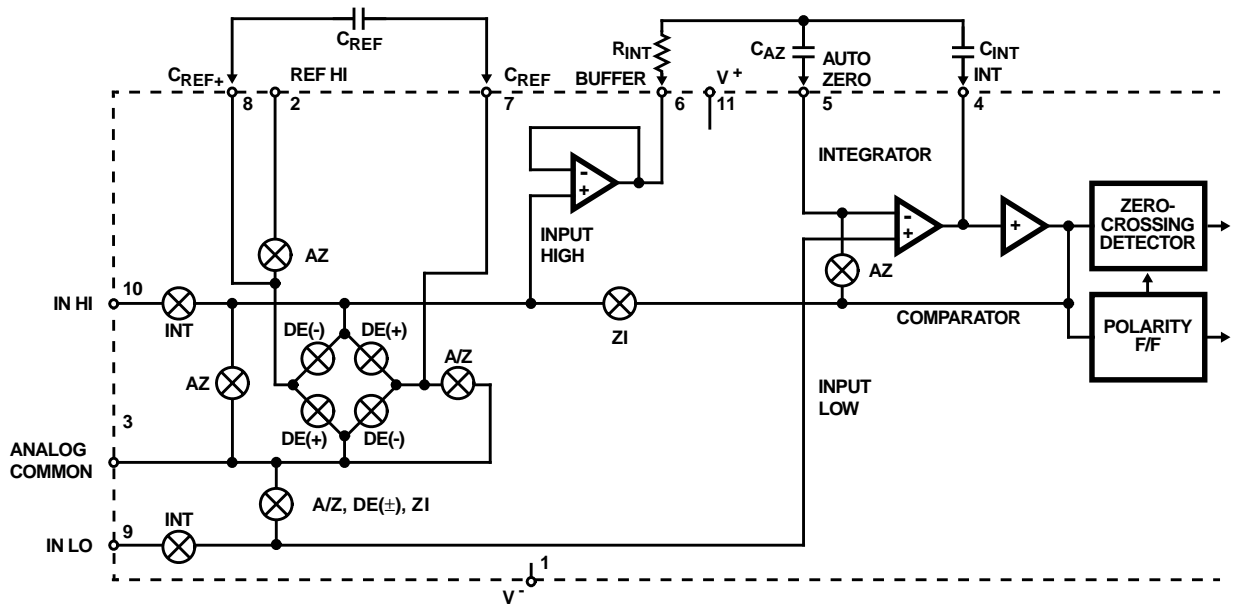

FIGURE 3. ANALOG SECTION OF ICL7135
3. Tested in  $4\frac{1}{2}$  digit (20,000 count) circuit shown in Figure 3. (Clock frequency 120kHz.)
Figure 3 shows the Block Diagram of the Analog Section for the ICL7135. Each measurement cycle is divided into four phases. They are (1) auto-zero (AZ), (2) signal-integrate (INT), (3) de-integrate (DE) and (4) zero-integrator (ZI).